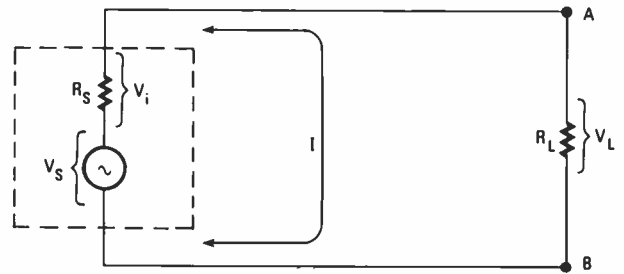

Fig. 5—A quick technique for measuring the output impedance of any device can be performed using a potentiometer, and by taking two measurements.
Another method of measuring the internal resistance or output impedance of a voltage source is to use the technique illustrated in Fig. 5. It is called the half-voltage method. Use the procedure described below:
4. Connect the potentiometer across the voltage source as a variable load resistor R_L as Fig. 5 shows. Connect a voltmeter or oscilloscope across the load resistance. Vary the load resistance until the output voltage V_L drops to one-half of the open-circuit value. In that case, you would adjust the potentiometer until the load voltage was 4 volts.